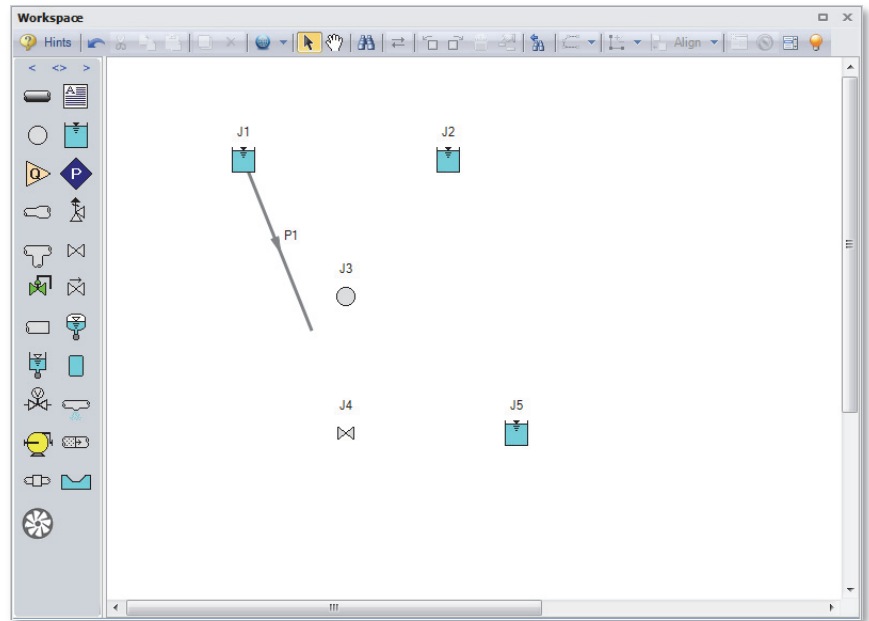
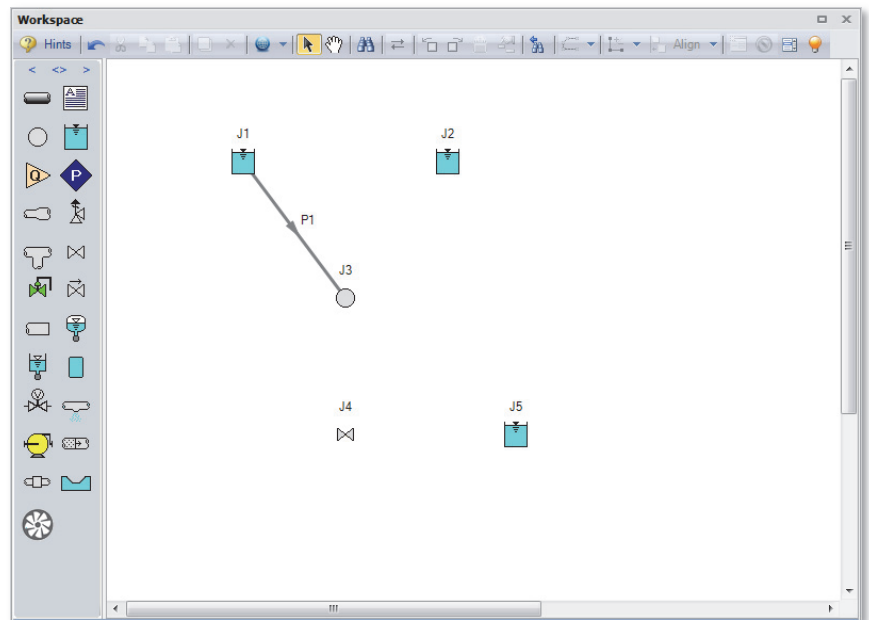

Figure 2.5d Valve closure model with first pipe partially connected
Figure 2.5e Valve closure model with first pipe connected
- **To place the pipe between J1 and J3,** use the mouse to grab the pipe in the center, drag it so that its left endpoint falls within the J1 Reservoir icon, then drop it there (see Figure 2.5d). Next, grab the right endpoint of the pipe and stretch the pipe, dragging it until the endpoint terminates within the J3 Branch icon (see Figure 2.5e).